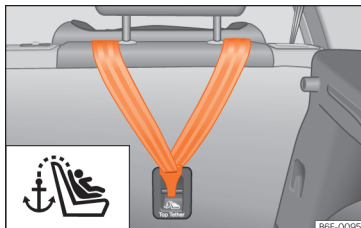

Fig. 38 Rear part of the rear seats: securing rings for the Top Tether strap.
- Press the child seat onto the “ISOFIX/iSize” retaining rings until the child seat is heard to engage securely. If the child seat is equipped with Top Tether* anchor points, secure it to the correspondent ring »» **Fig. 38**. Observe the manufacturer's instructions.
- Slide the strap and secure it properly with the anchorage of the backrest »» Fig. 38.